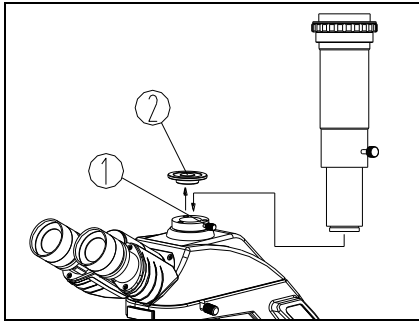

Fig. 24
1. Loosen the lock-screw ① on the trinocular head and get down the dust-cover ② of the trinocular.
2. Insert photography device to the trinocular. Screw on the lock-screw ① (see Fig.24).